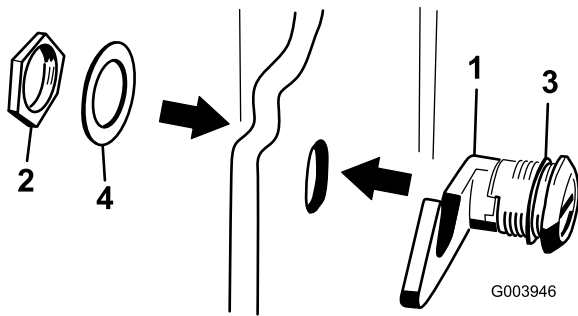

Figure 6
3. Remove the nut from the hood latch assembly (Figure 6).